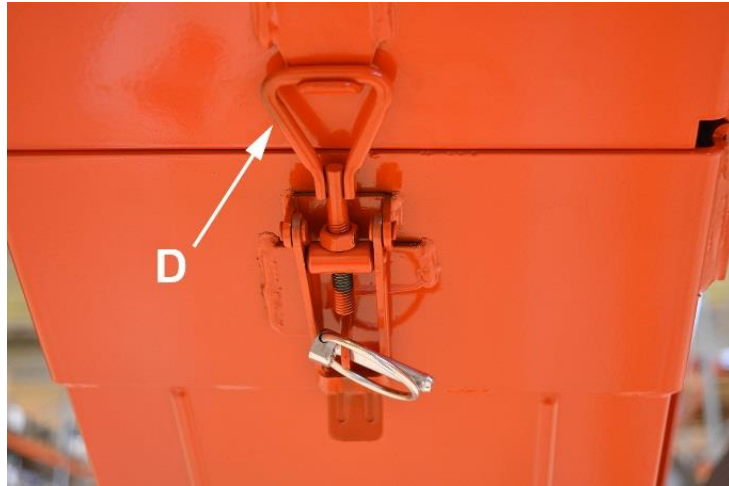

Figure 8.
10. Use a winch to lift the conveyor to the desired angle (max 40°) and lock the upper section of the out-feed conveyor to the operating position using lock D (Figure 8).
2. Release lock D (Figure 8) and lower the conveyor to the lowest possible position with the winch.